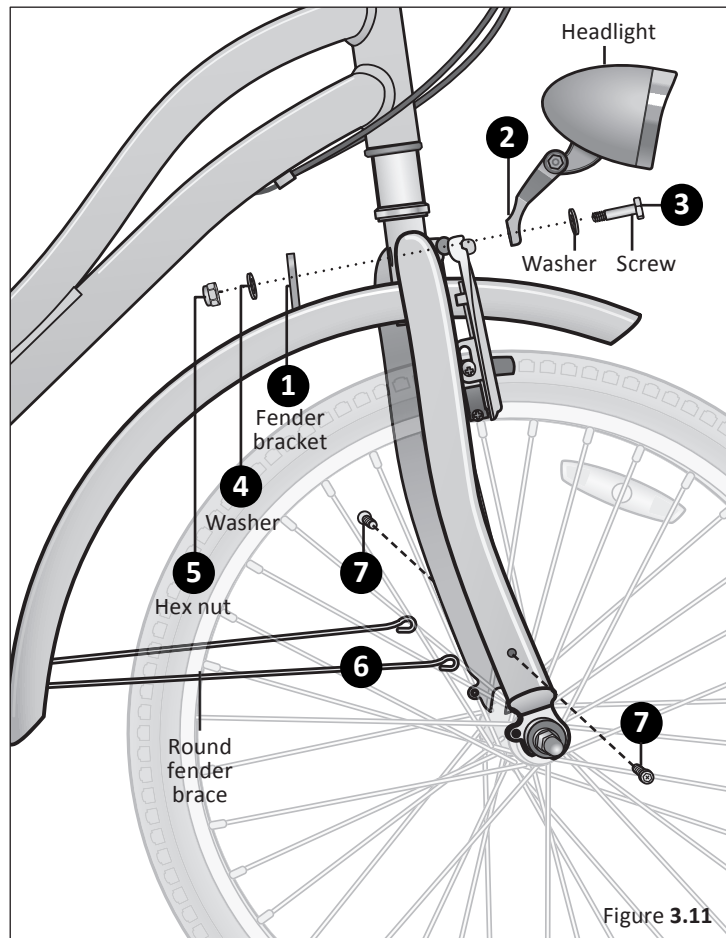

Figure 3.11
- 2 Place the axle washers on the axle and slide it up against the fork drop out. Figure 3.11
- 1** Position the front fender so the fender bracket is on the inside of the frame. Align the hole in the bracket to the hole in the fork crown. Figure 3.11